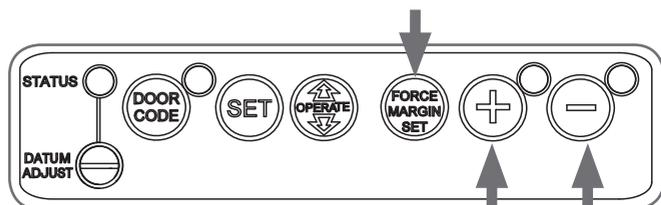

Fig. 6.17
- Press and hold the FORCE MARGIN SET button (**Fig 6.17**).